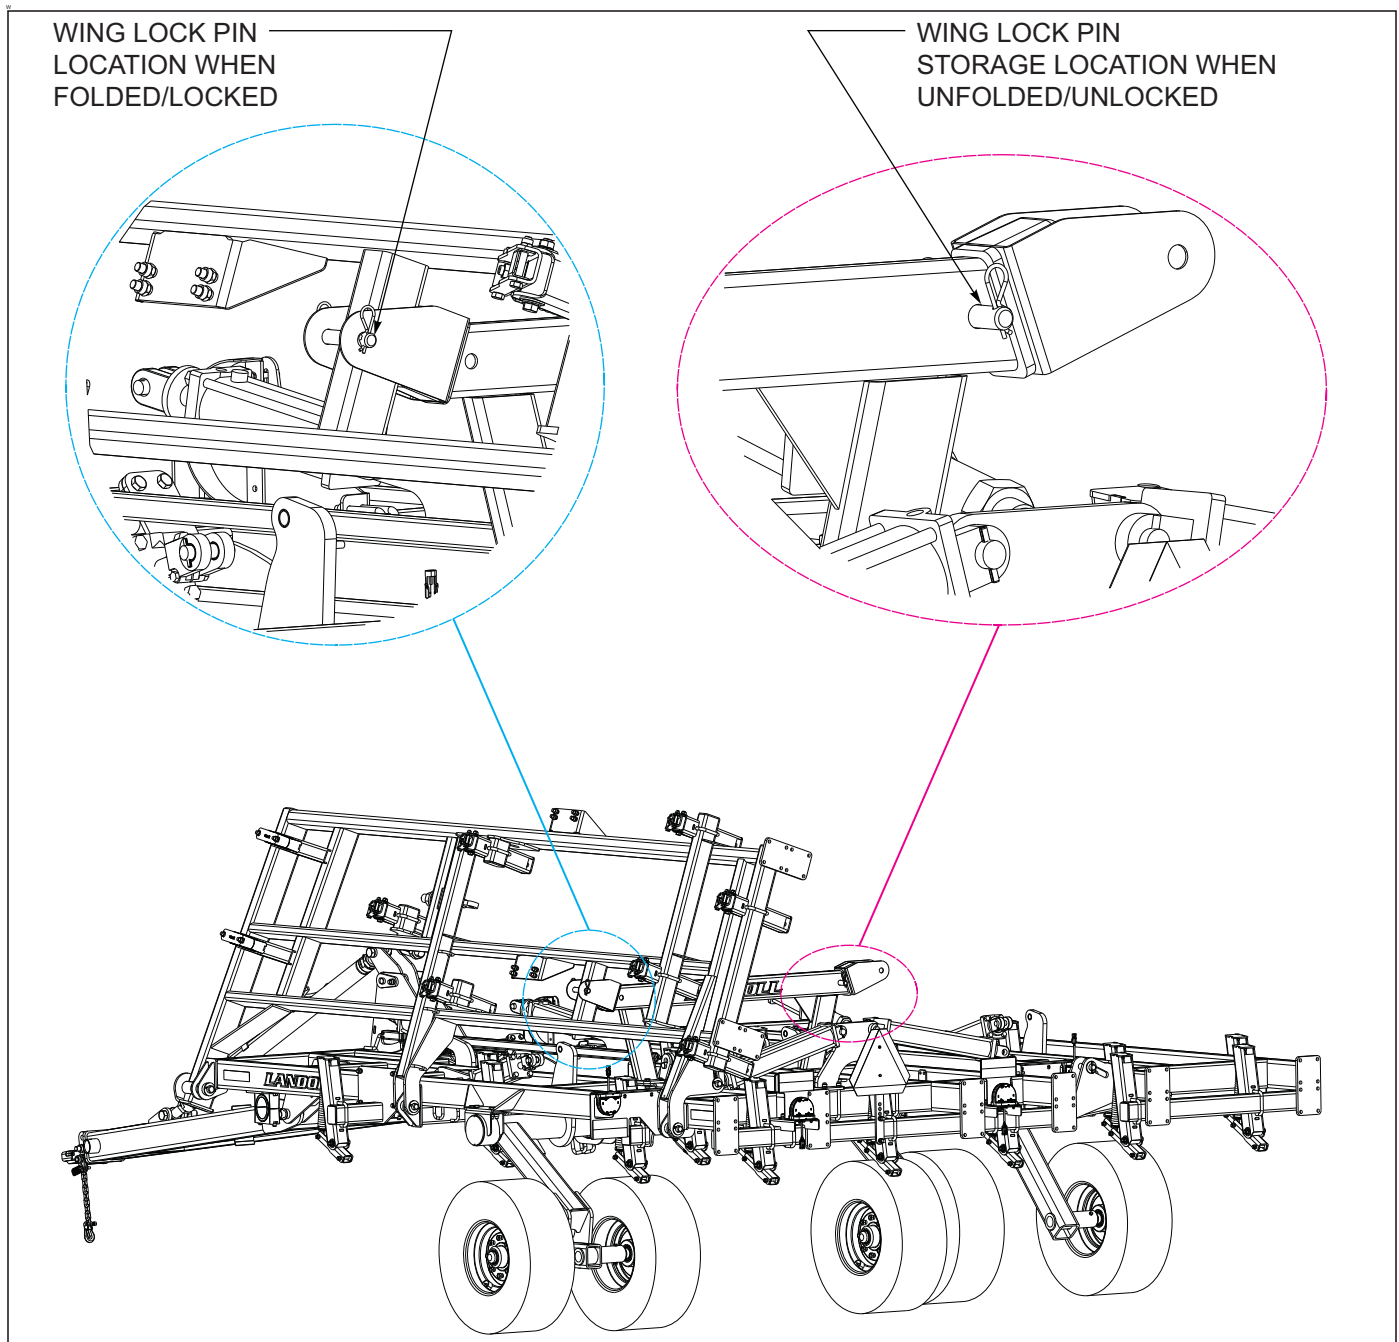

Figure 4-5: Wing Lock Pins
4. To fold/unfold the Finisholl, find a level area large enough to accommodate the machine when it is fully unfolded. The tractor should be stopped and not moving with the implement fully raised. Remove the wing lock pins from the mounts and install them in the storage locations See Figure 4-5.
5. Slowly engage the tractor lever and fold/unfold the wing frames. When the wings are unfolded, continue holding the tractor lever to fully extend all fold cylinders. This will allow the wings to fully flex in the field. When the unit is fully folded, remove the wing lock pins from the storage location and install in the mounts provided on each side of the machine See Figure 4-5.
6. Storage - For extended periods of nonuse, it is best to store the Finisholl inside if possible. If stored outside, unfold the unit to keep wheels and disc bearings from filling with rain and/or snow. If the unit must be stored outside for extended periods, is best to apply a light coating of oil or grease to exposed cylinder rods to prevent them from rusting. Grease the unit at all points See Table 5-1 and See Figure 5-3. Repair/Replace any worn or damaged parts. If the unit is stored in the folded position, make sure the wing lock pins are installed to prevent wing frames settling See Figure 4-5.